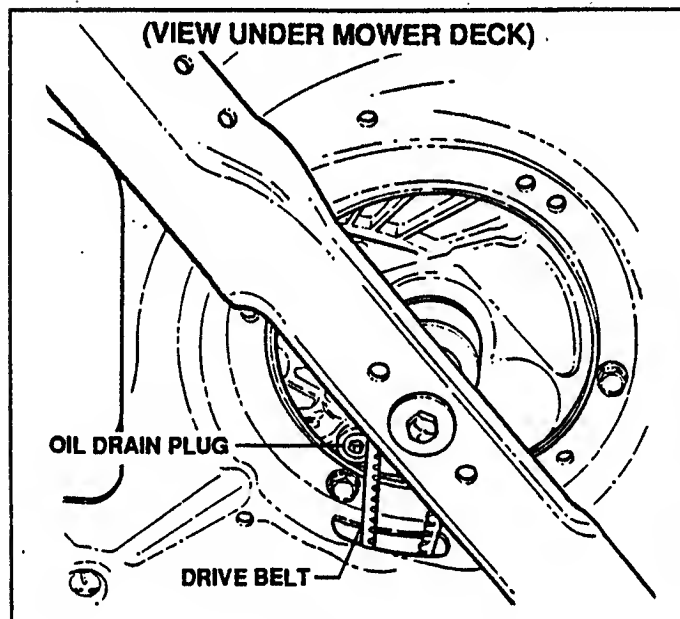

FIGURE 3.1
1. Disconnect spark plug wire and secure end away from plug. The items needed to perform oil change are: (2) cloth rags, (1) 3/8" ratchet with a short extension or (1) 3/8" ratchet with 3/4" socket, (1) 6" long 2" x 4" piece of wood or brick and (1) shallow pan.
2. Tilt mower up on its rear wheels for access to the oil drain plug located underneath the mower deck. Do not tilt mower with spark plug or carburetor down. See Figure 3.1.